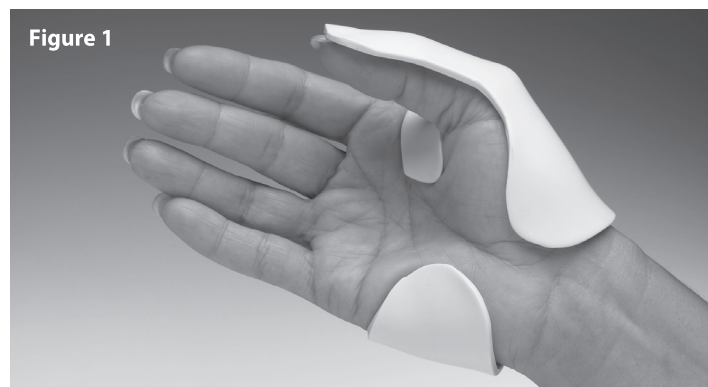

Figure 1
- Mold the splint around the dorsal side of the hand, through the web space and along the thumb. Hold the thumb joints stable with the IP joint flexed slightly. Be sure that the dorsal thumb piece is long enough to support the IP joint but not so long that it extends beyond the thumb tip. Leave the pulp of the thumb tip uncovered. **(Figure 1)** This dorsal thumb piece will help counter balance the pinching force of the fingers. The patient will have a broader pinch surface if the IP joint of the thumb is flexed slightly, allowing the pulp of the thumb to contact the pulp of the index and long fingertips in a three-point pinch pattern.